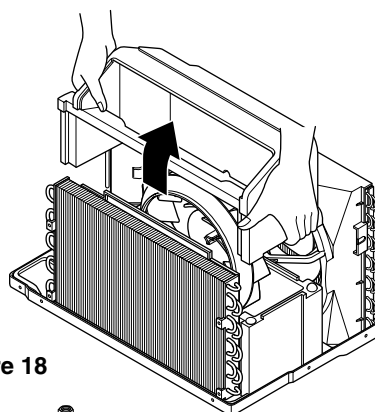

Figure 18
6. Lift air guide upper upward. (See Figure 18)